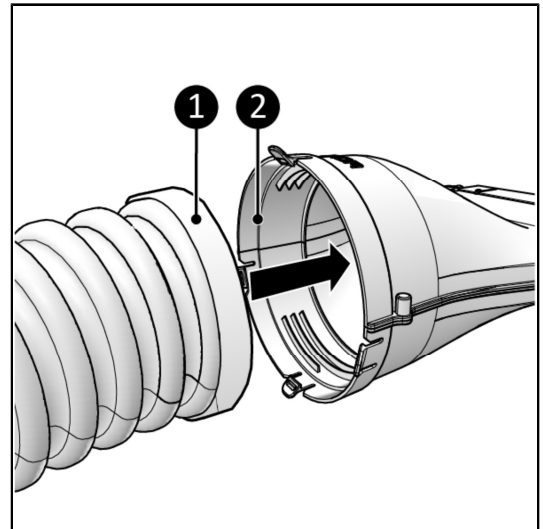

Figure 103.
- With a click system, for a hose with a collar (Figure 103, pos. 1).
(Figure 103, pos. 1) into in the main body
(Figure 103, pos. 2).